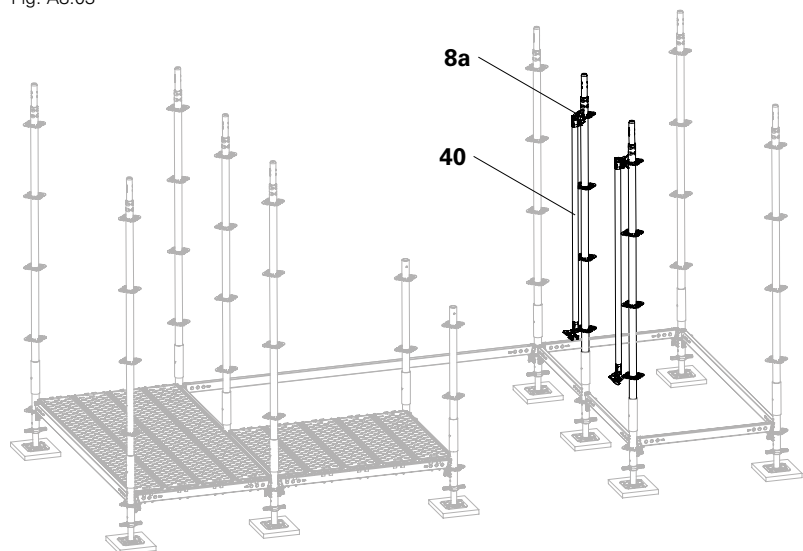

Fig. A8.04
3. Fit the standards (**8a**) with pre-assembled node braces (**40**) in such a way that the node braces will be within the stair frame thereafter. (Fig. A8.04)